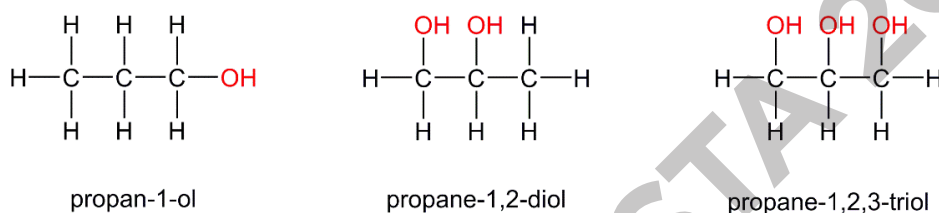

Figure 3.13: Simple alcohols.
Alcohols are a homologous series of organic compounds. Alcohol molecules have one or more hydroxyl (OH) functional groups (Figure 3.13).